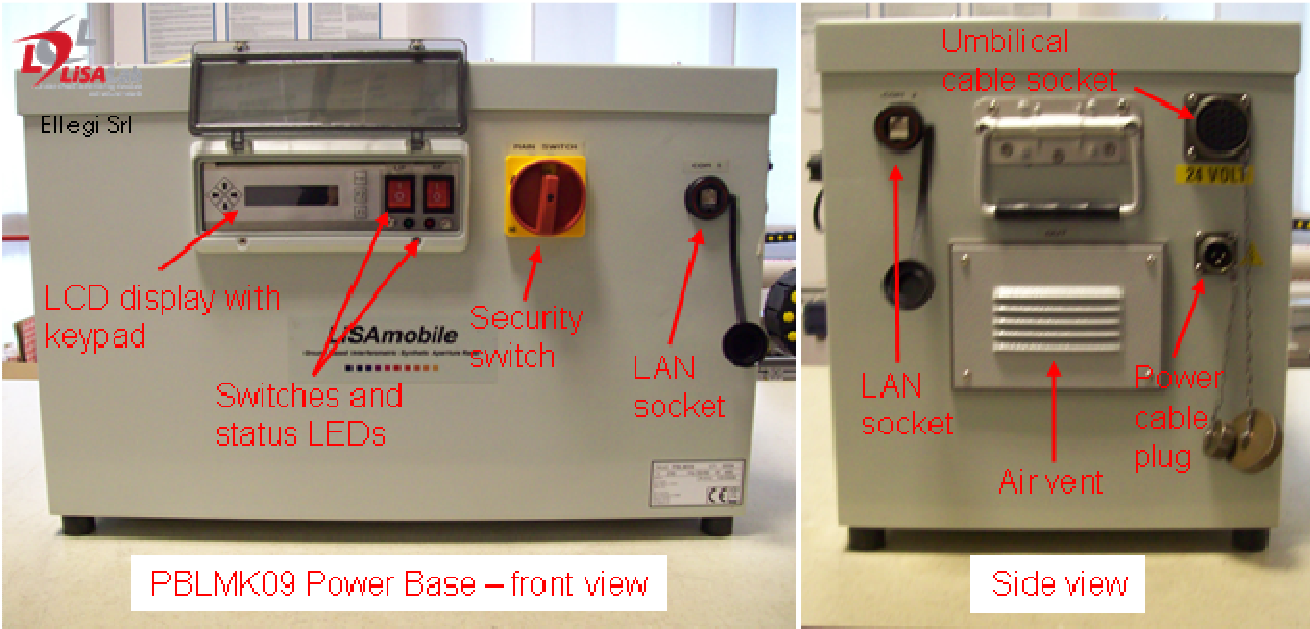

Figure 4: LISAMOBILE PBLM power base main features. Front view (left) and side view (right).
3. Power base PBLM: the power base contains the electronic devices needed in case of a power line fault and the computing and storage facilities needed for the management of the data acquired by the GBInSAR LM system. On its frontal side it features an LCD display equipped with a keypad, two switches, two status LEDs, a security switch and a LAN socket. On its lateral side it features the power line plug (3 pins standard MIL size 16 plug), the umbilical cable socket (22 pins standard MIL size 28 socket) and a second LAN socket (Figure 4). On the sides of the power box there are two air vents that ensure the air circulation and the cooling of its electronic devices.